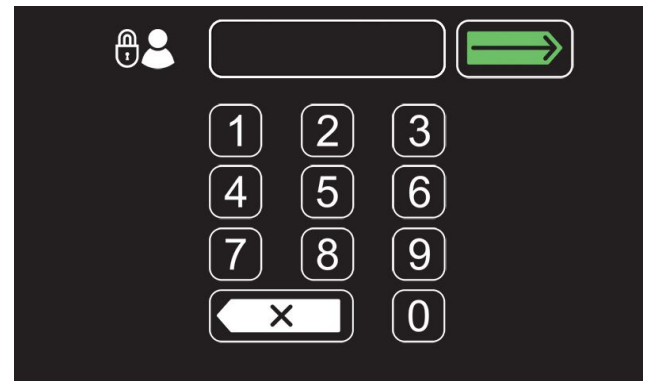

FIG. 184
8. To enable the login screen at start up (Figure 184), see Enabling the Login.